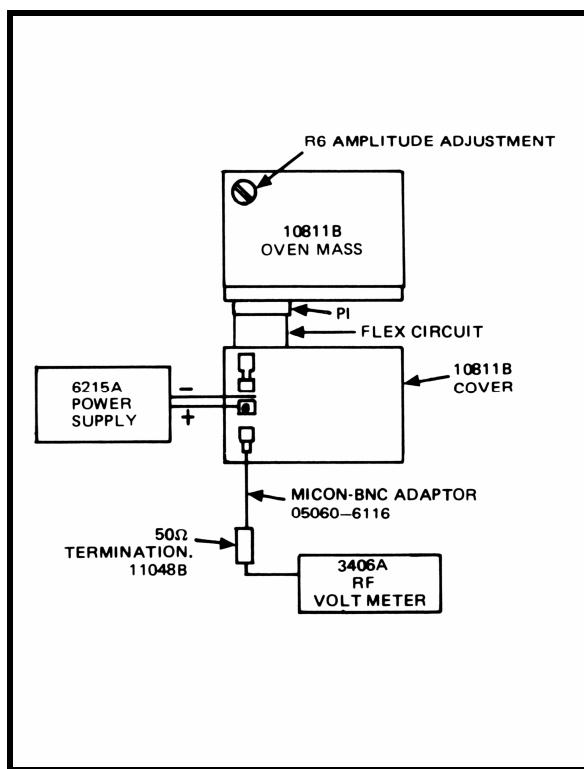

Figure 5-3. 108118 Amplitude Adj Set-up
- c. For the 10811B, reconnect the flex circuit attached to the bottom cover and connect the 6215A as shown in Figure 5-3. **DO NOT APPLY POWER TO THE OVEN CIRCUITS.** A Micon to BNC adaptor is available for the 10 MHz output (HP Part Number 05060-6116).